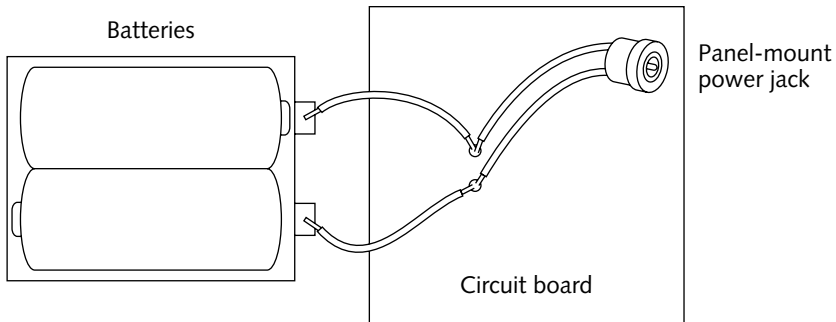

FIGURE 10-13: Solder extension wires to the wires already coming from the battery compartment.
- a. If the built-in compartment has two wires coming from it, solder two more wires to where these original wires connect to the compartment or the circuit (see Figure 10-13).